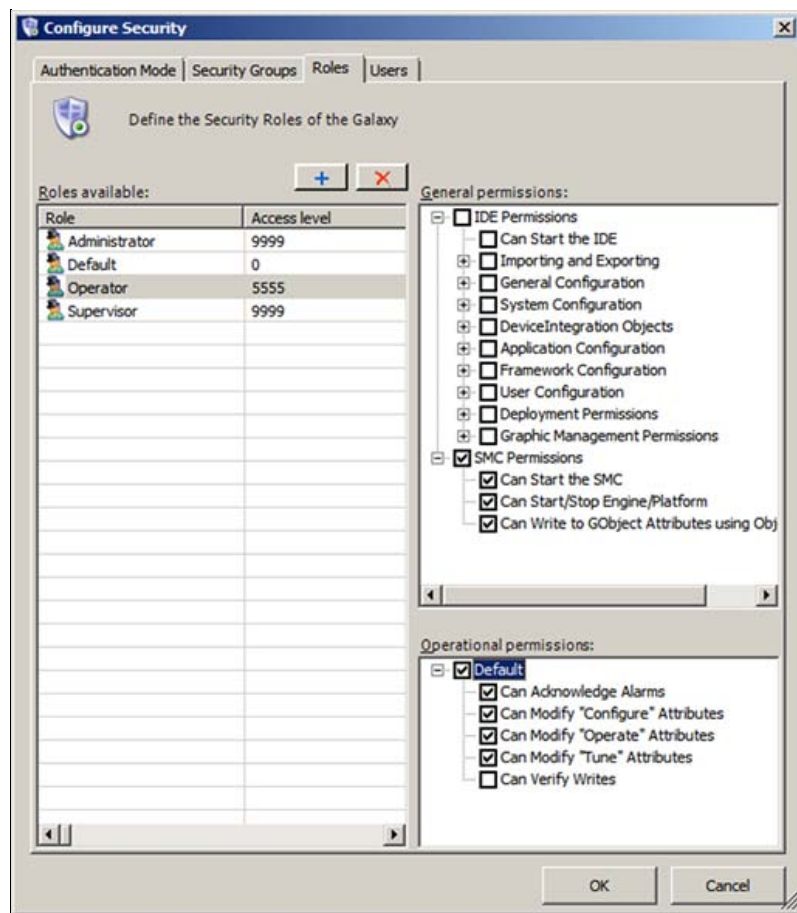

FIGURE 4: OPERATOR PERMISSIONS
- For the Operator role just check SMC permissions and everything under Default *except for Can Verify Writes* (Figure 4 below).